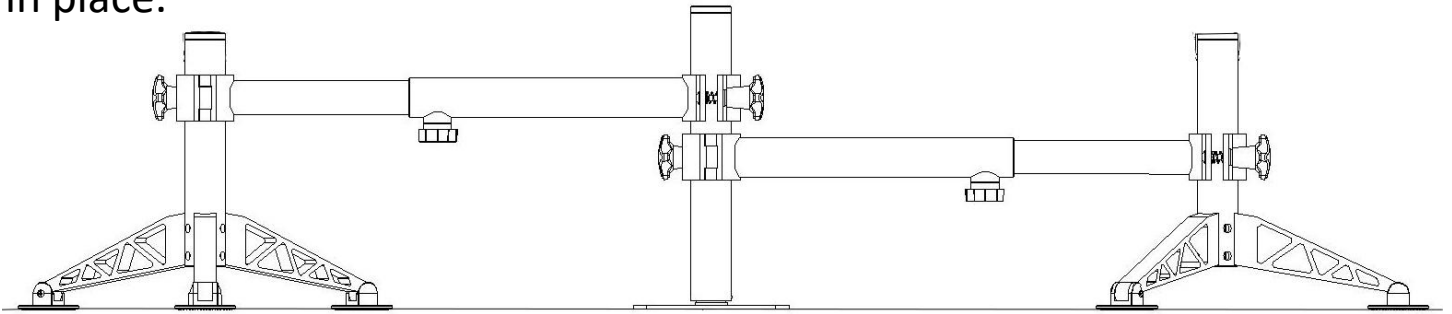

FIGURE 7.
STEP 6: Now repeat this process with the other Horizontal Support Assembly as seen in FIGURE 7. Next tighten all knobs to hold the Side Kick in place.